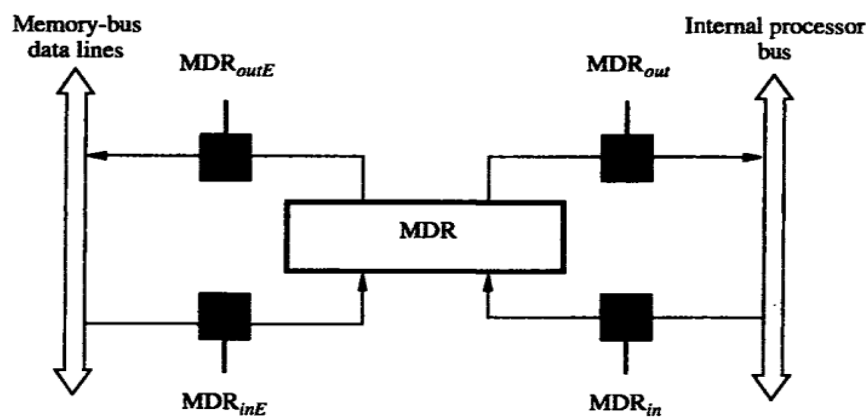

Figure 7.4 Connection and control signals for register MDR.
- The Connections for register MDR has shown in fig 7.4
• The **MDR register has 4 control-signals** (Figure 7.4):